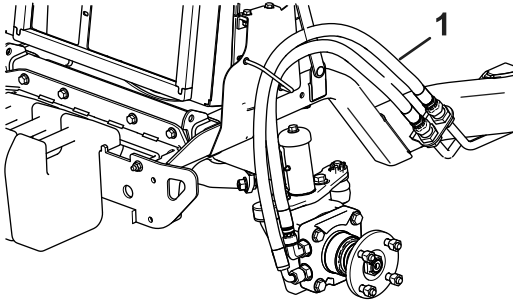

Figure 8
15. Route the hoses through the hose guide (Figure 8).